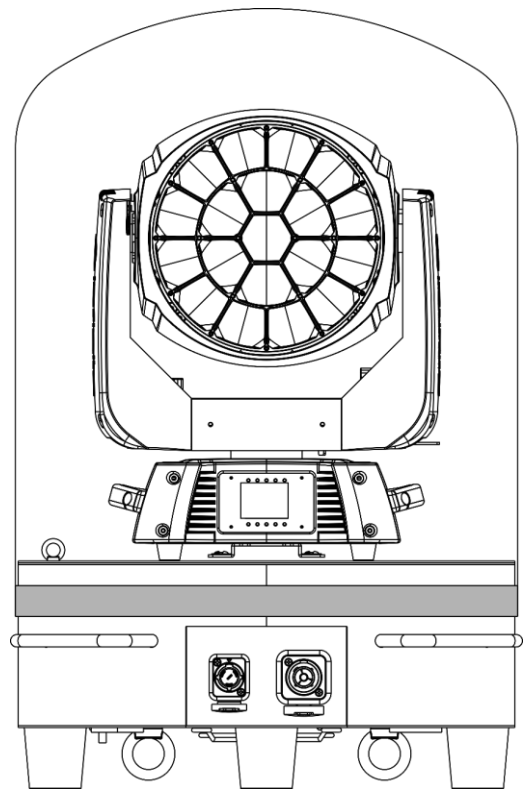

Fig. 18
- 02) Attach the hook-and-loop fastener of the plastic sleeve to the **hook-and-loop fastener (09)** of the device and press it tightly (Fig. 18).